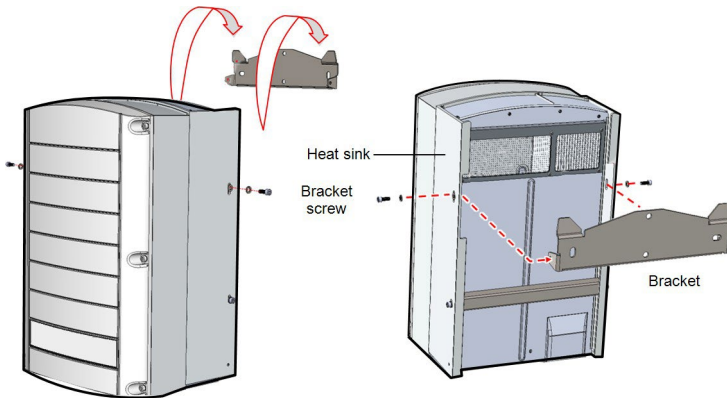

Figure 17: Hanging the Synergy Unit
- For the right or left Synergy Units, insert only one screw through the outer (exposed) side of the unit and into the bracket. Tighten the screws to a torque of 2.9 lb.\*ft (see *Figure 17*).